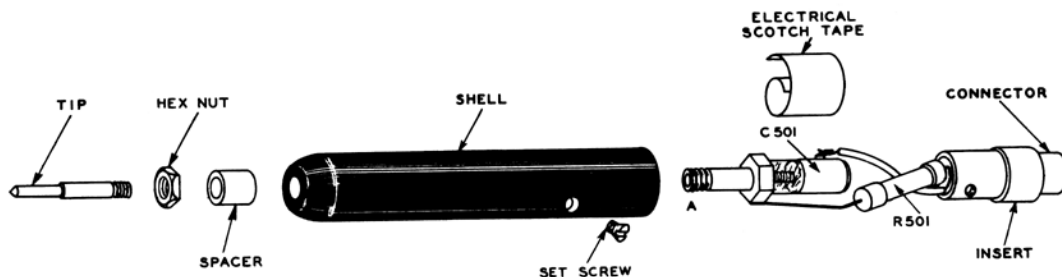

Figure 24. Exploded View of WG-216B Low-Capacitance Probe
4. Remove the internal assembly from the probe housing by applying pressure at point A. See Figures 24 and 25.